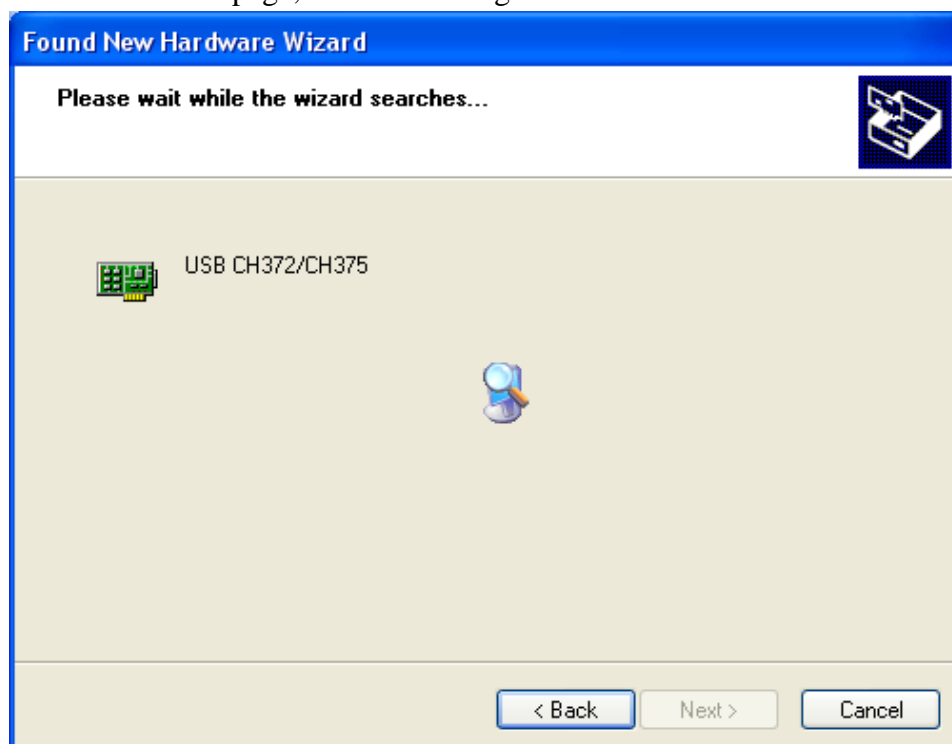

Figure 1-12
3. In the new hardware wizard dialog box in Figure 1-11, select the “Install the software automatically” option, then click **NEXT** to enter the automatic driver search and installation page, as shown in Figure 1-12.
4. As shown in Figure 1-12, the hardware installation wizard of your digital storage oscilloscope begins searching and installing the USB driver for the oscilloscope communication and control software. When installation is complete the dialog box shown in Figure 1-13 pops up.